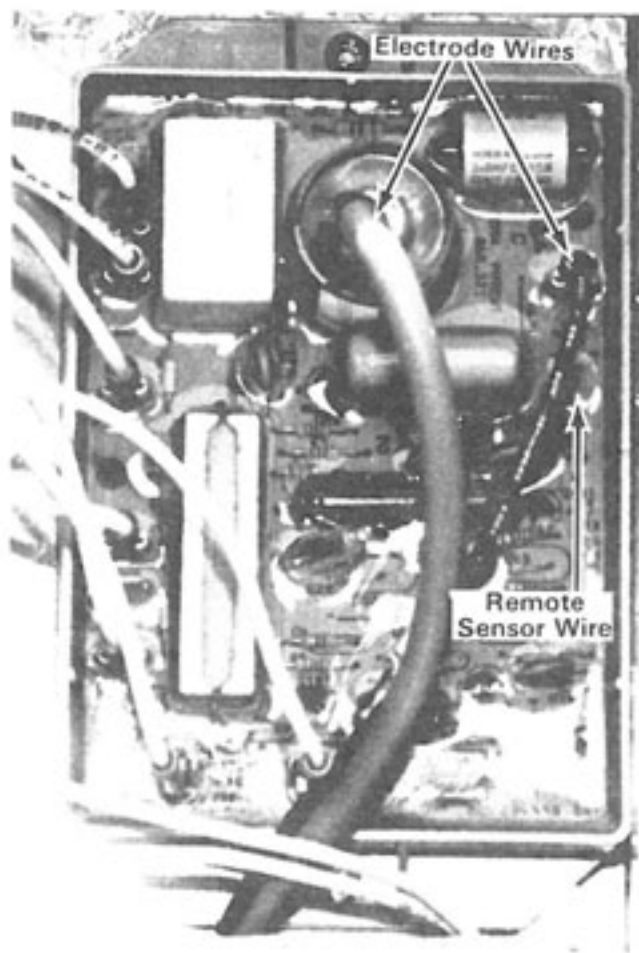

Figure 54 - Ignition Boards
5. Check to be sure that there is 115V power to the ignition board. Connect a voltmeter between terminal A (L1) and L2 on the ignition board, see Figure 54 and 55.
8. If there is 115V between terminal A (L1) and L2 check for 115V at terminal B (V1) on the ignition board, see Figure 54 and 55. Connect a voltmeter between terminal V2 and B (V1) on the ignition board.